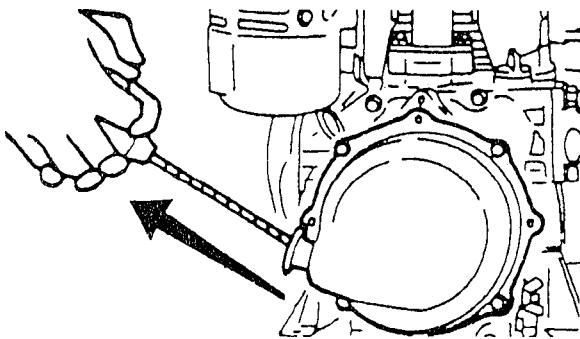

Figure 18. Engine Start Handle
2. Pull the starting handle slowly until you feel some resistance (Figure 18). Return handle to original position.